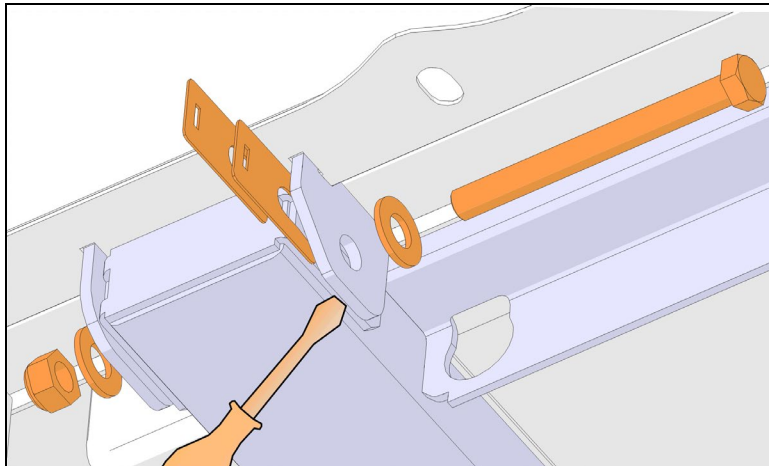

FIGURE 4: SCREW AND SHIM INSTALLATION
21. If you feel interference while inserting the shim, the contour weld on the cradle tubing may need to be lightly ground down in this location with a thin cutting wheel to have a flat surface for the shim. (Figure 4).